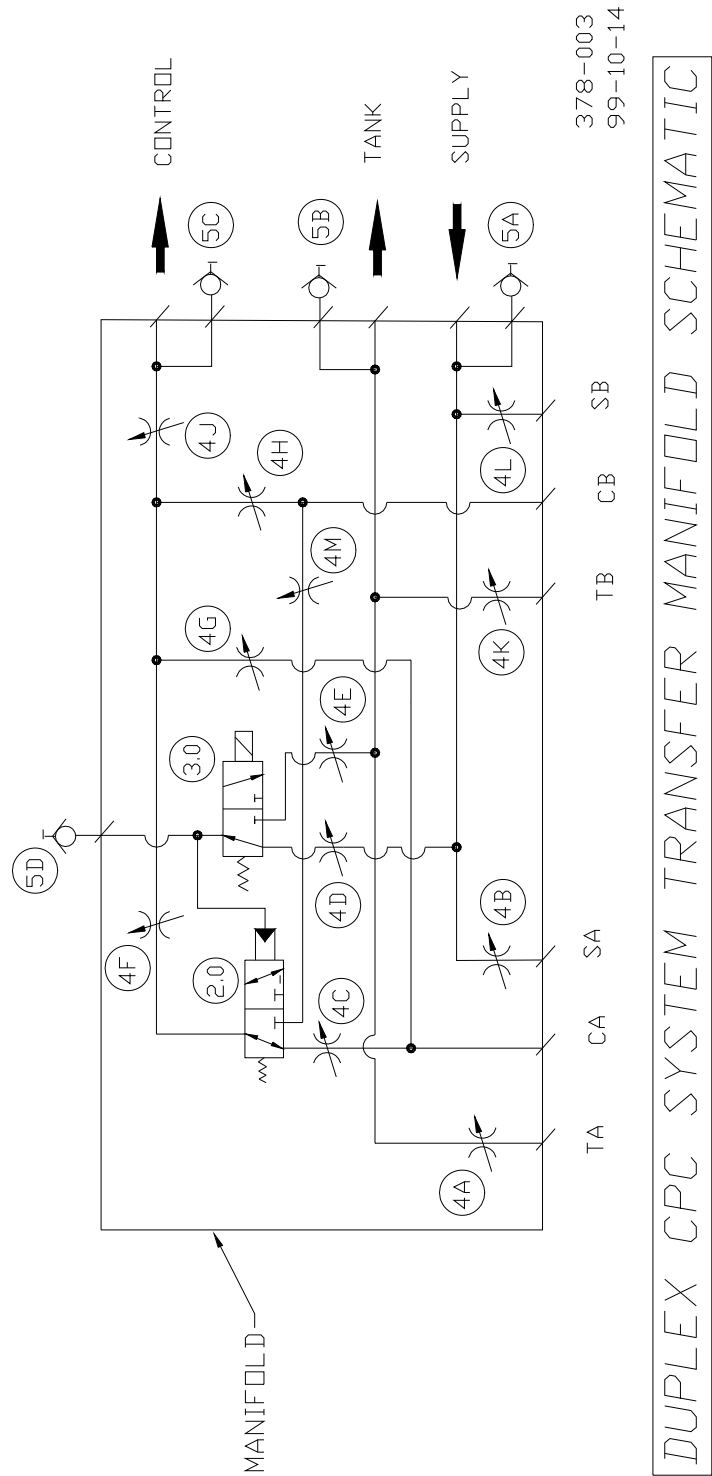

Figure 4-1. System Manifold Schematic
To aid with calibration, a self sealing pressure test point on the hydraulic control output is provided on the manifold for use with the pressure gauge assembly provided (see Figure 4-1).
A schematic of the system manifold is shown in Figure 4-1. The actual CPCs are not shown. The duty CPC ports are represented as TA, CA, and SA (Tank, Control output, and Supply ports). Similarly the standby CPC ports are shown as TB, CB, and SB. The system interface connections are shown on the right hand side (C, T, and S), item 2 is the transfer valve, item 3 is the transfer valve's piloting solenoid valve. Items 4A to 4N are the isolation valves (4J operates as a flow rate limiter). Items 5A to 5D are the self sealing test points.